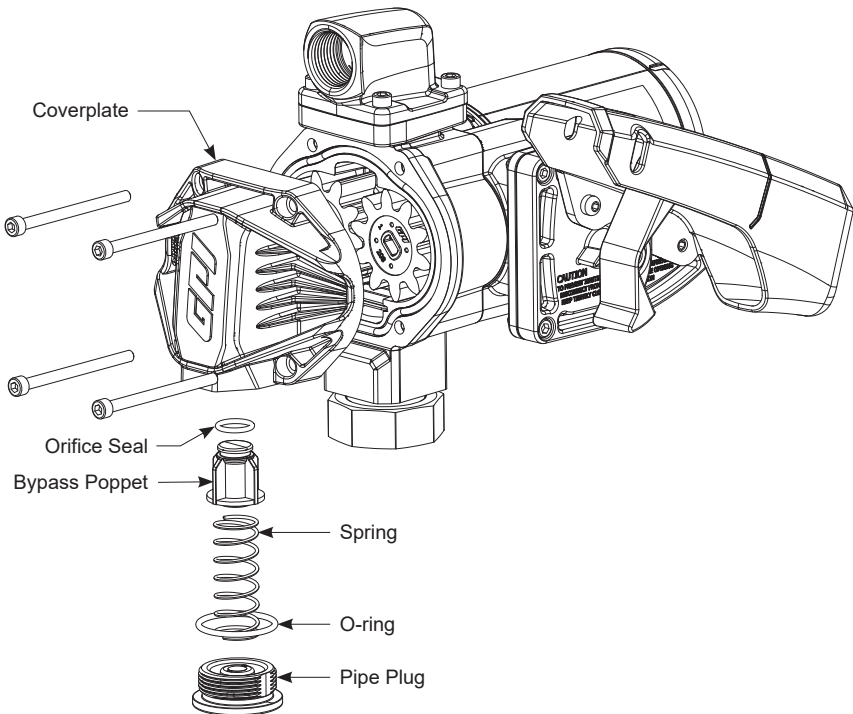

Figure 13
10. Clean Bypass poppet (see Figure 13).
3. With a 10mm Hex wrench remove the pipe plug from the coverplate, and remove the bypass poppet spring, O-ring, bypass poppet and orifice seal (see Figure 13).